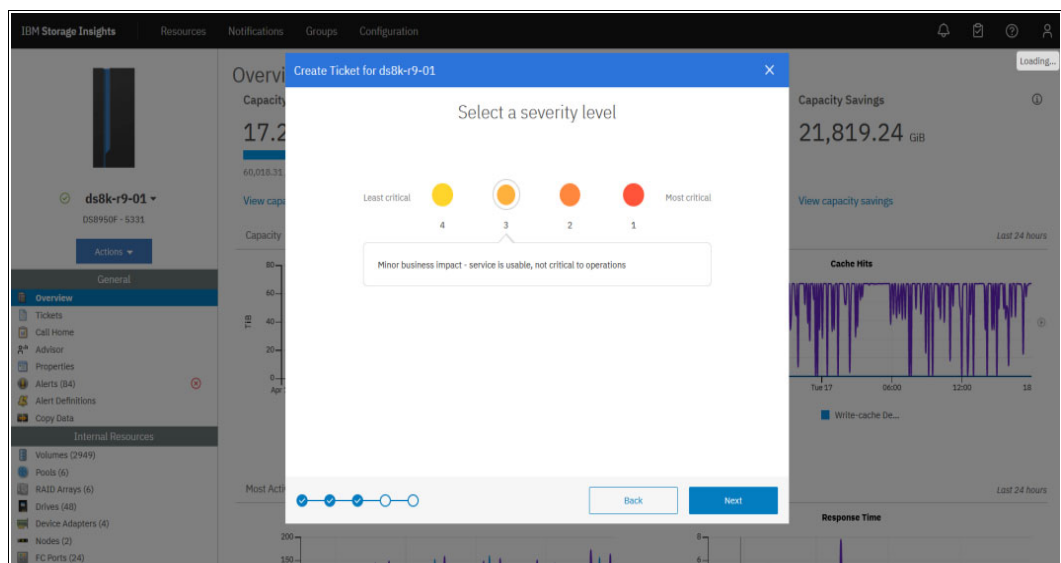

Figure 12-24 IBM Storage Insights: Severity level
- Click **Next**. In the window that is shown in Figure 12-24, select the severity of the ticket.